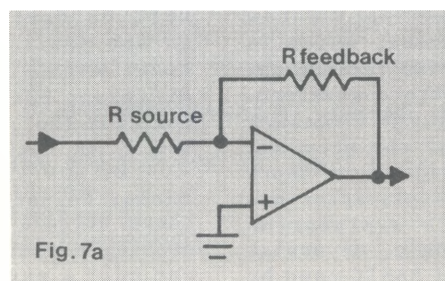

Fig.7a
**Op amp gain formulas.** Here are two more quickies to close out the article. For an inverting amp (figure 7a), the formula for gain is: